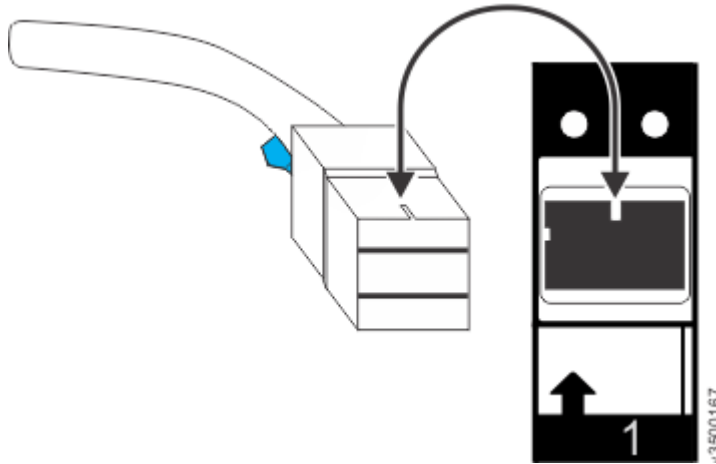

Figure 116. Proper orientation for SAS cable connector
- Figure 116 on page 166 shows the correct orientation. The blue tab is always below the port for expansion enclosure attachment SAS cables.